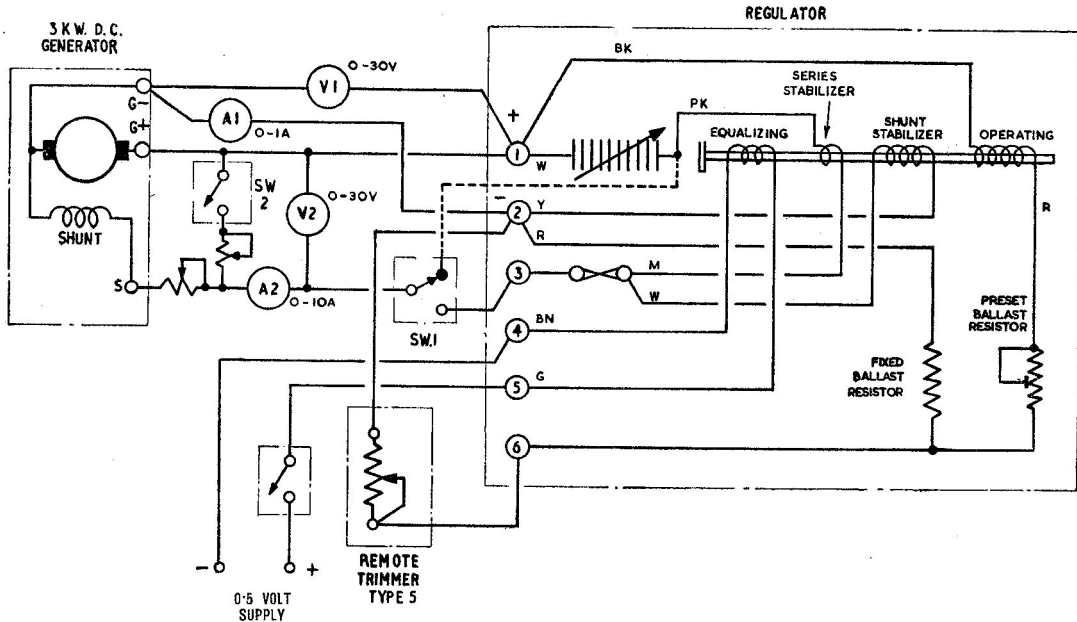

Fig. 3. Test circuit diagram
7. ◀ It is preferable that the regulator should be tested in conjunction with the rotary transformers, Type 1050. If this is not available, however, a test may be carried out using a d.c. generator of suitable characteristics, such as Type O2 or U0, connected as shown in the circuit diagram in fig. 3. ►
8. Disconnect and insulate the pink lead from the pile end bracket, and substitute the test lead from SW1 (fig. 3). With the stabilizing windings disconnected by switching SW1 to the test lead, the regulator must be adjusted to control the generator output at 28 volts with the coil current shown on A1 adjusted to within the limits of 0.6 and 0.66 amp. cold.